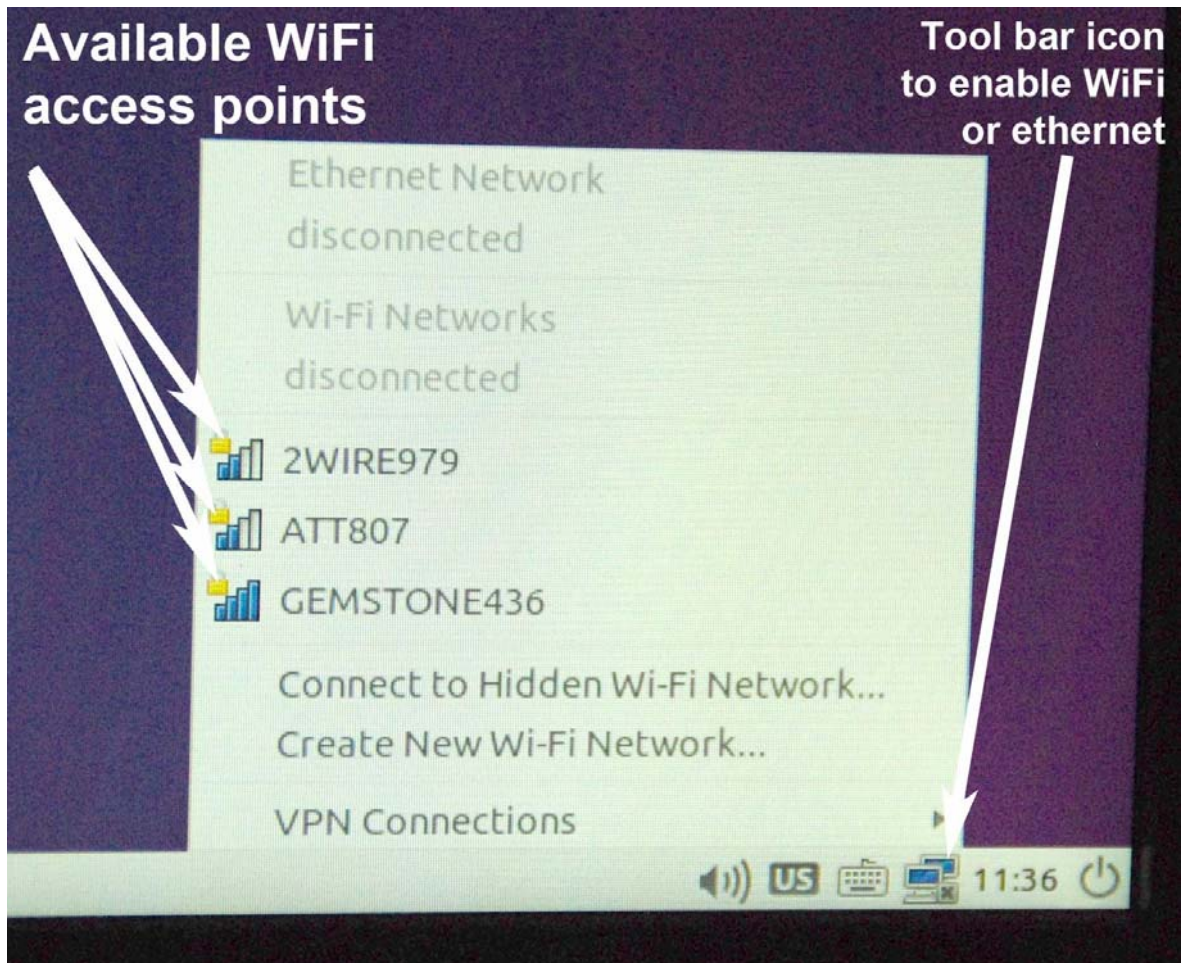

Figure 5 – The Icon to enable the WiFi or ethernet connection to the Internet is NOT obvious
- Connect by either ethernet or WiFi to the internet and make a connection....test by going to Google. See **Figure 5** for enabling a WiFi connection through a near-by Access Point to the internet.